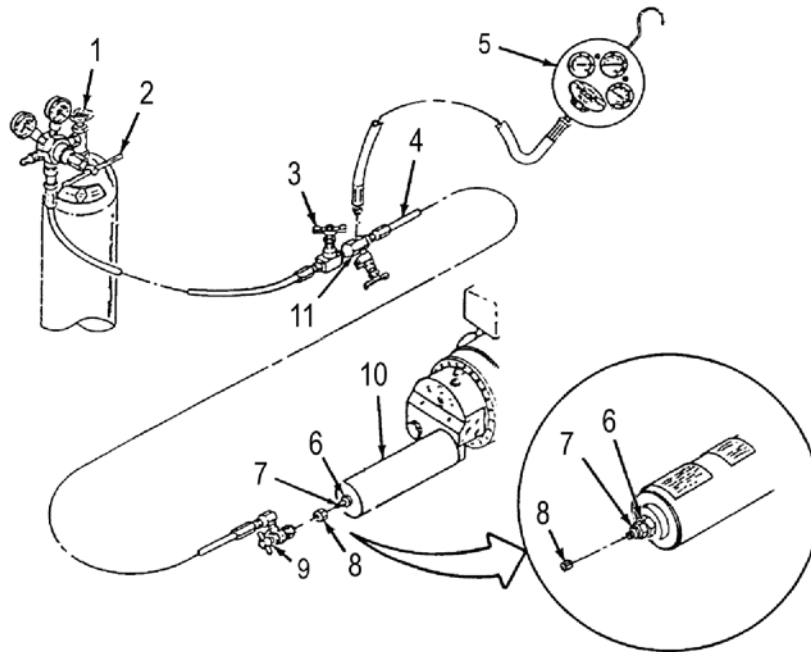

Figure 66. Actuator Accumulator Pressure Test
- Connect pressure measuring device (Figure 66, item 5) to bleed valve (Figure 66, item 11) on charging harness (Figure 66, item 4). Close shutoff valve (Figure 66, item 3).
- Open nitrogen tank valve (Figure 66, item 1) and adjust regulator valve (Figure 66, item 2) to 50 psi (353 kPa).
- Open shutoff valve (Figure 66, item 3) for about 10 seconds to clear charging hoses. Close shutoff valve (Figure 66, item 3).
- Remove charge valve cap (Figure 66, item 8).
- Loosely connect adapter valve (Figure 66, item 9) to charge valve (Figure 66, item 7) on actuator accumulator (Figure 66, item 10).
- Open shutoff valve (Figure 66, item 3) for about 10 seconds. Close shutoff valve (Figure 66, item 3). Tighten adapter valve (9).
- Open charge valve (Figure 66, item 7) by loosening nut (Figure 66, item 6). Read pressure measuring device (Figure 66, item 1).